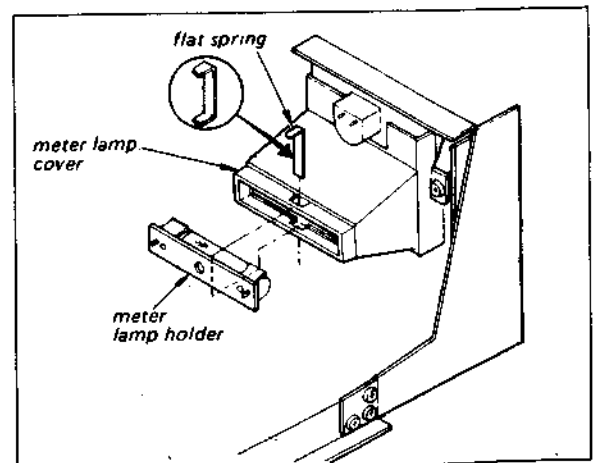

Fig. 2-4. Meter lamp replacement
1. Straighten the flat spring, then pull it up as shown in Fig. 2-4. This frees the meter lamp holder.